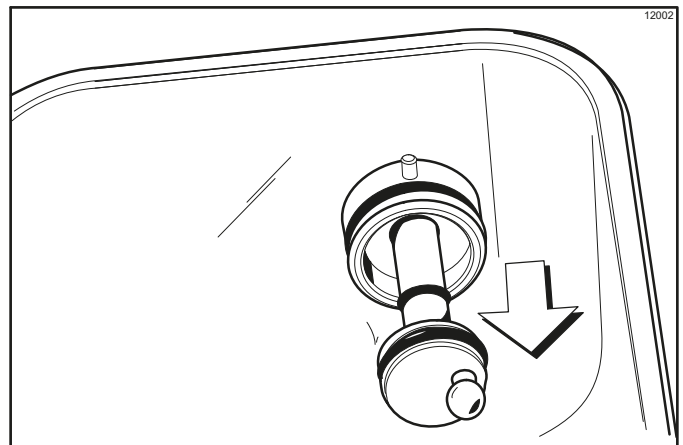

Figure 6-39
5. Remove the pump drive shafts from the drive hubs in the rear wall of the mix hoppers. (See Figure 6-39.)